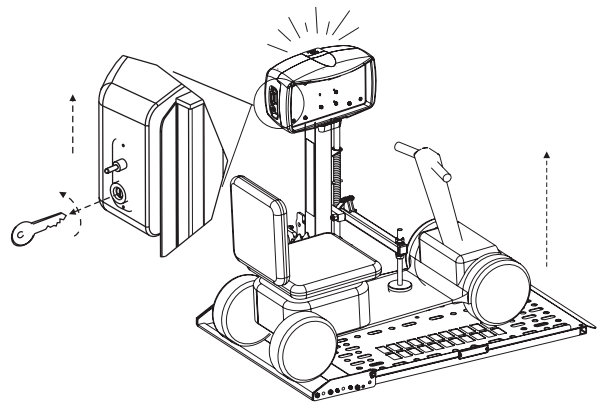

Figure 3-5
3. Remove the key. *See Figure 3-5.*